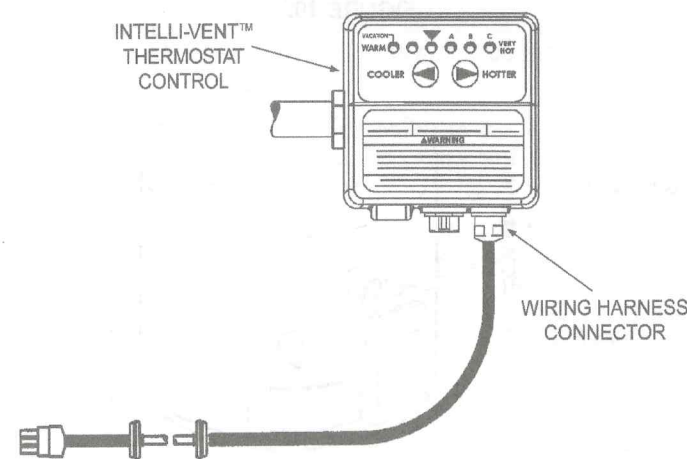

FIGURE 13.
17. Locate the wiring harness and connector that comes out of the water heater's jacket and plug the connector into the Intelli-vent™ Thermostat Control, (184960 Series), see Figure 13.